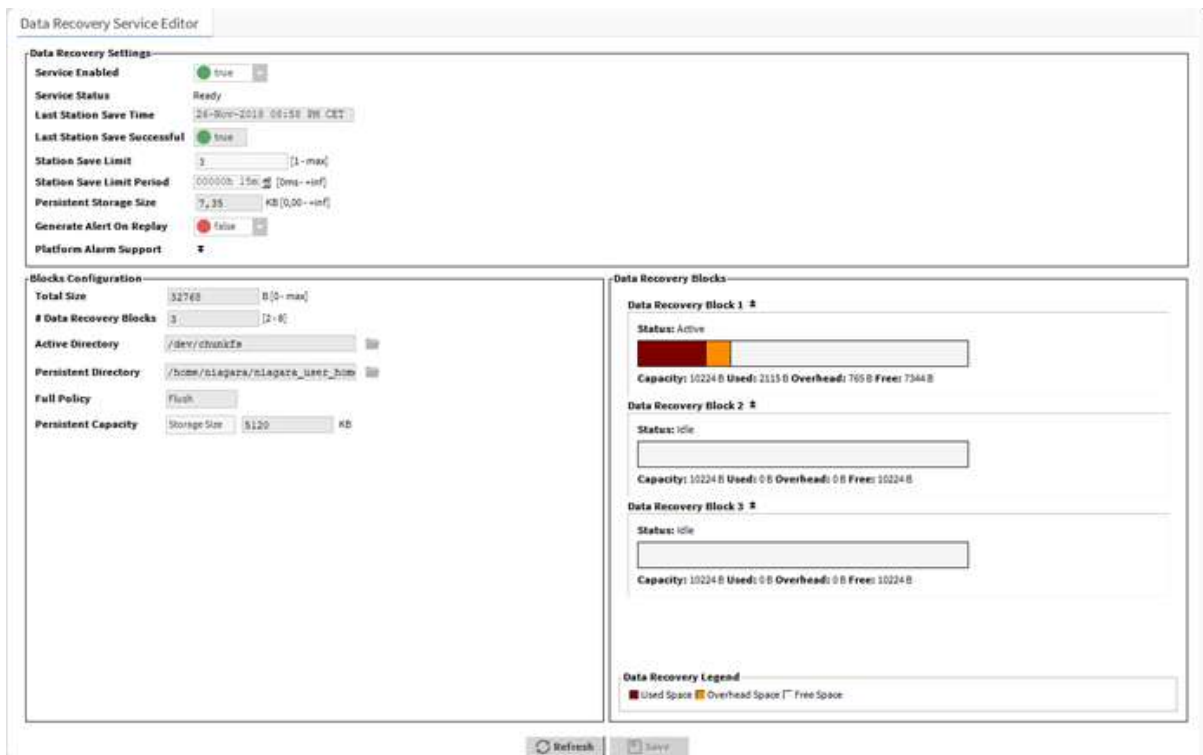

Figure 34. Data Recovery Service Editor in PlatformServices of the MAC36 controller
- **Generate Alert On Replay:** the Boolean (true/false) value that generates an alert (low priority alarm type), which indicates whether a Data Recovery Replay occurred (power was lost). This is a persistent artifact that will show up in the alarm console, since it is useful to know when the power loss occurred. By default the value is false. If set to true, upon any controller boot sequence in which the NV-RAM recorded data is discovered and played back, a corresponding alert is routed to the Alarm Class named in the Data Recovery Alarm Support container. The figure 34. shows details for such an example alert.